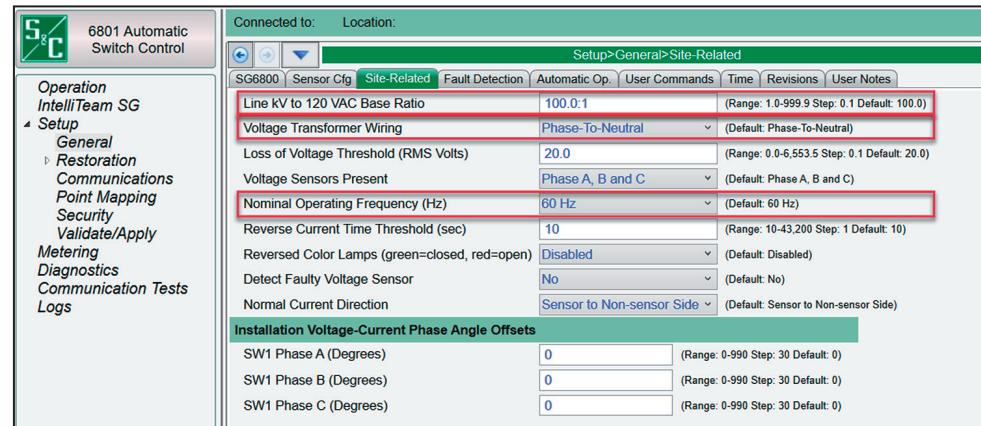

Figure 2. The 6801 control System Voltage and Operating Frequency settings.
STEP 2. Configure the **Line kV to 120 VAC Base Ratio**, **Voltage Transformer Wiring**, and **Normal Operating Frequency** settings to match the line voltage, transformer wiring, and operating frequency of the system on which the 6800 Series control is deployed. See Figure 2.